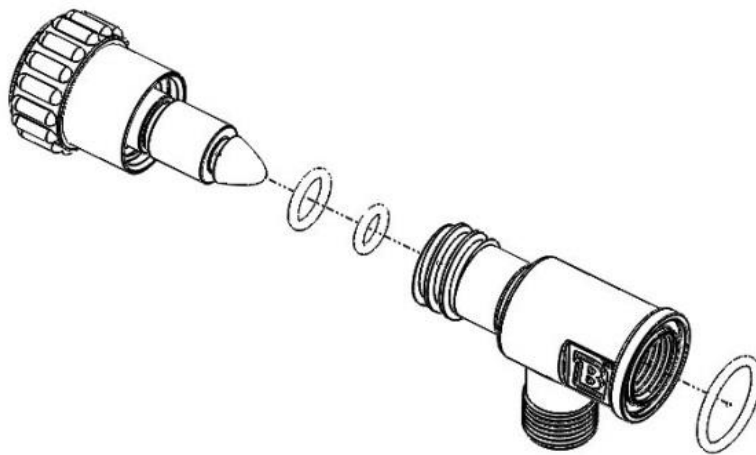
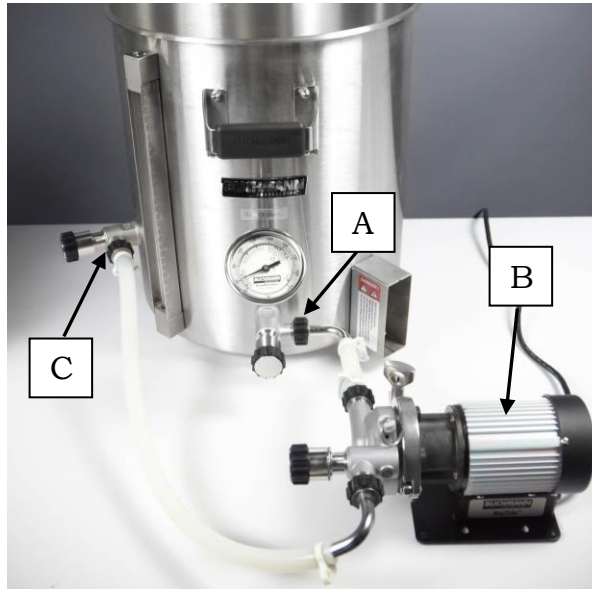

Fig. 11
Fig. 12
- A pump, hose fittings, and high temperature hose (as shown in **Fig 12.**) are required to complete a whirlpool system. Figure 11 shows a typical system setup for a whirlpool. The wort is drawn out of the kettle at position **A**, with the brewing pump in position **B**, and sent to the whirlpool valve at location **C**.